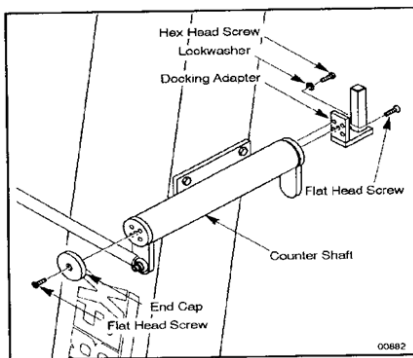

Figure 5-3 Docking Adapter Reversal.
1. With a 3/16" Allen wrench, remove the flat head screw securing the end cap to the end of the countershaft. (See Figure 5-3.)